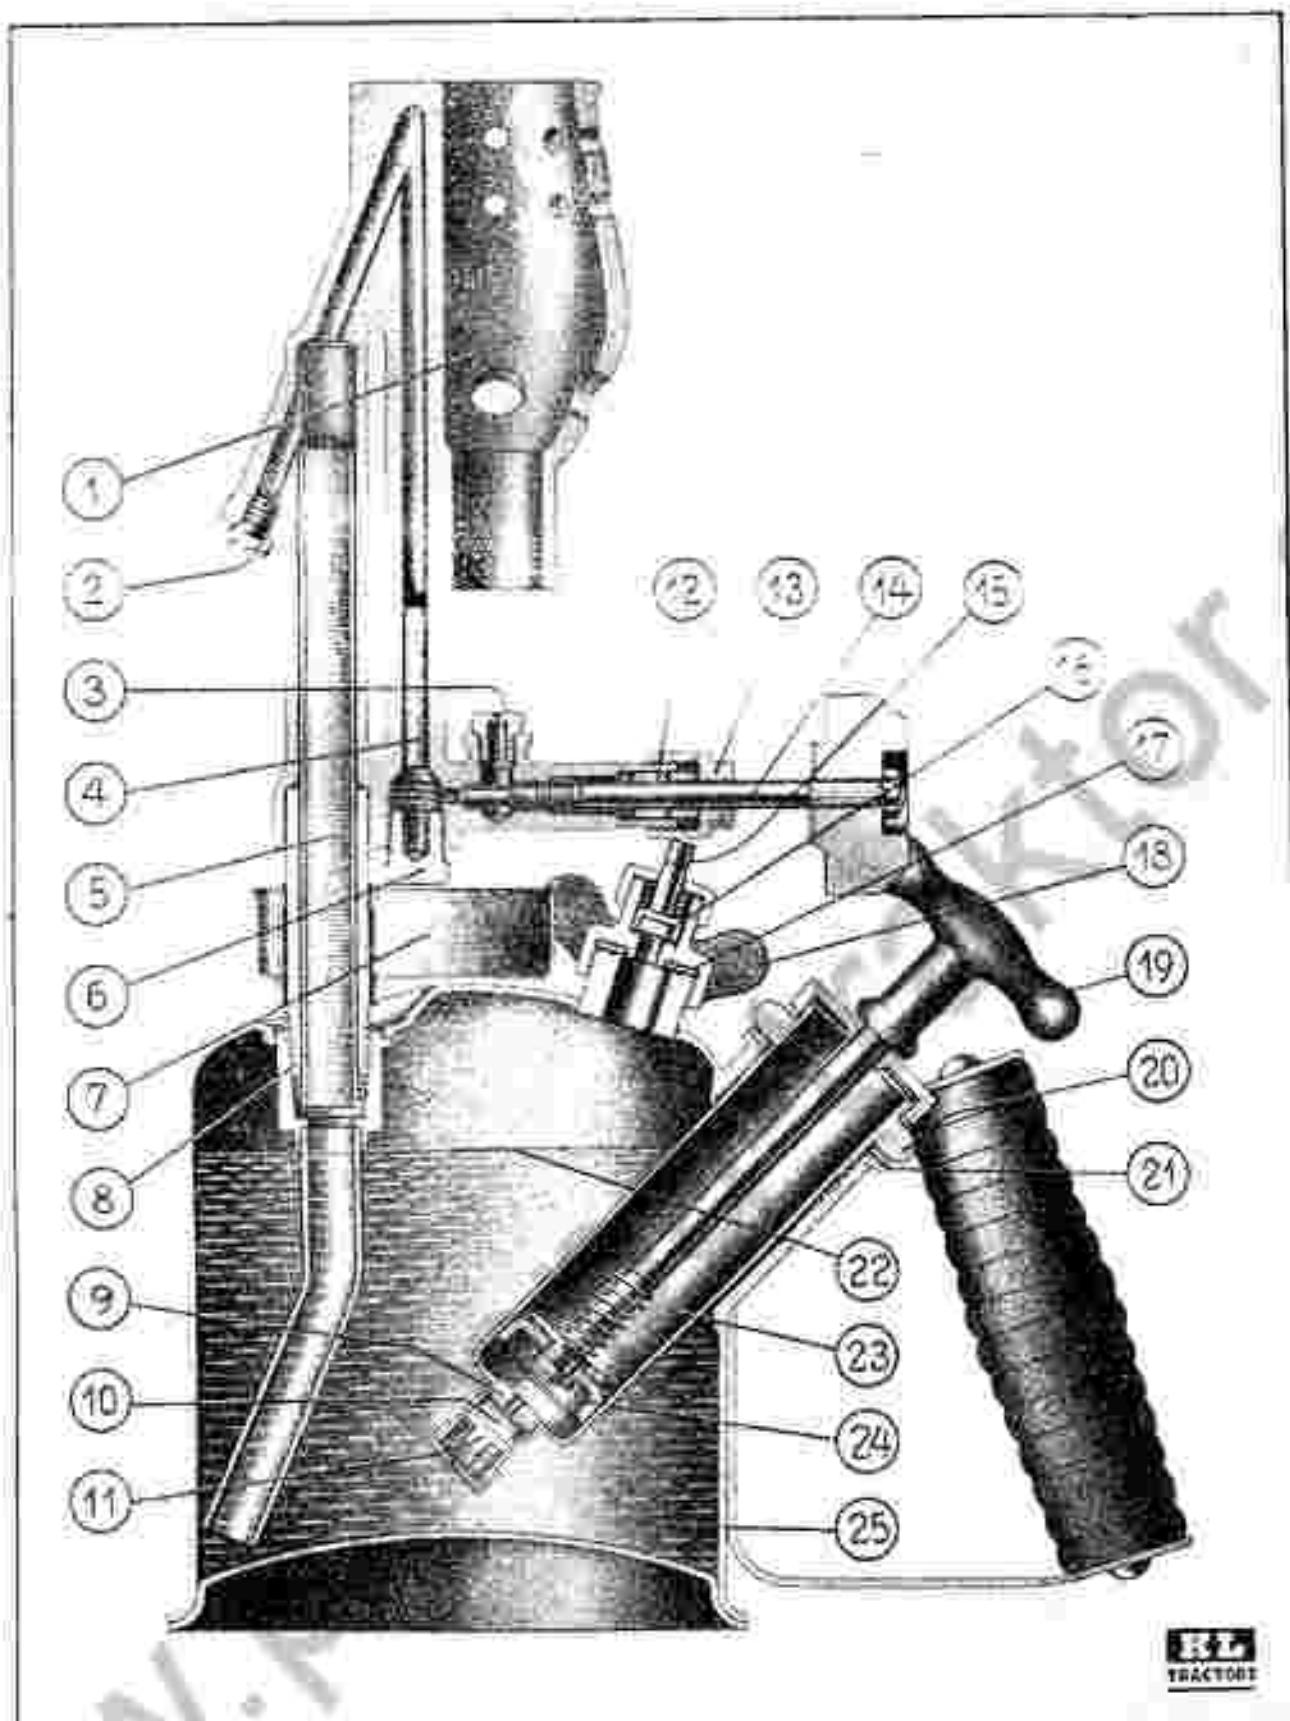

Fig. 90. Blow lamp (sectional view)
FILLING - The container (25), Fig. 90, holds about one pint, but it should be filled only about once inch from the top.
Nozzle (3), Fig. 90, choked up